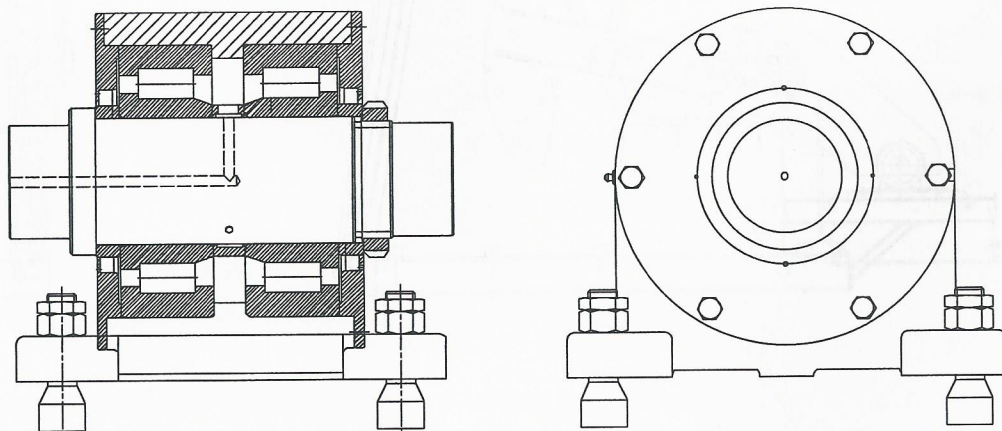

Fig.3: Center Bearing Assembly Structural Sketch
3.2.2 Center Bearing Assembly (Fig.3)
Center bearing assembly consists of shaft, center bearing base, bolt, two NJ2332 bearings, J-shaped oil-seal and so on. It is connected to Sampson post stand base by a shaft and walking beam by bolts. See Fig. 3: